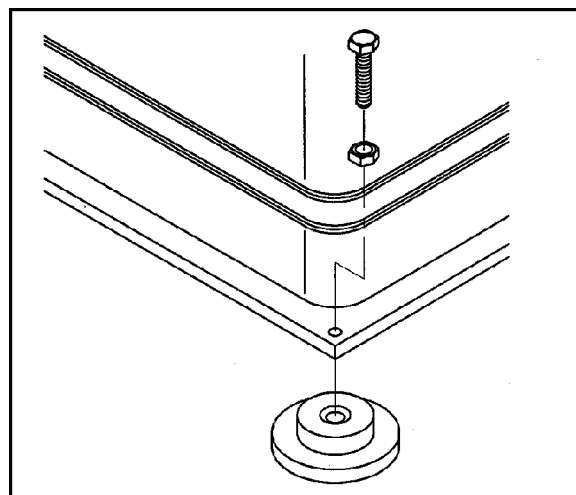

Figure 3
3. The rip saw can be bolted to the floor through the holes at the four corners. If it will not be bolted to the floor, the four cast iron foot pads should be placed beneath the corners, with the four M16 x 80 leveling screws and four M16 nuts. See Figure 3.